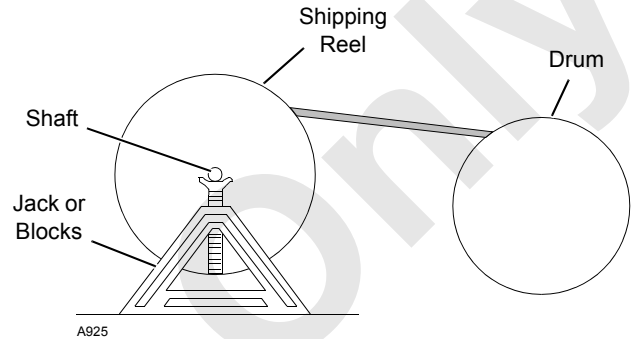

FIGURE 4-36
- a. Mount the wire rope shipping reel on a shaft supported at both ends by jacks or blocks as shown in Figure 4-36.